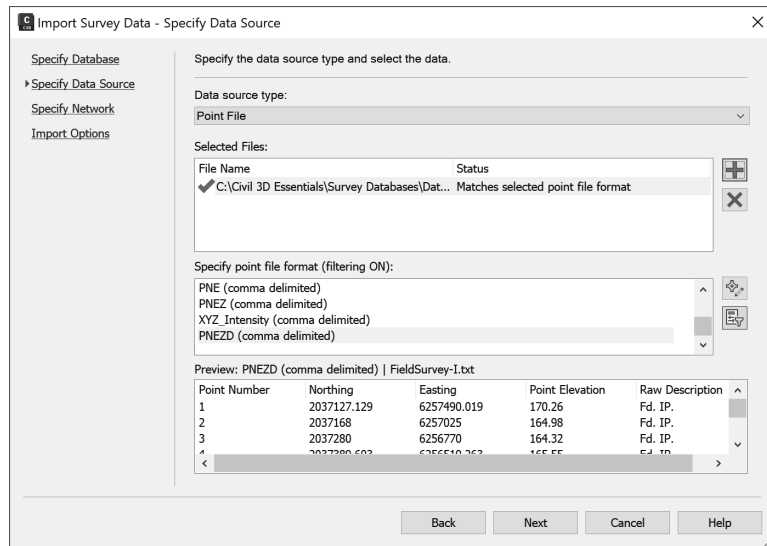

Figure 2–28
4. Click **Next**. The *Specify Network* page (shown in Figure 2–29) enables you to change the network or create a new one. If importing a Field Book, a *Network* must be assigned. If Importing a Point File, a *Network* is optional.